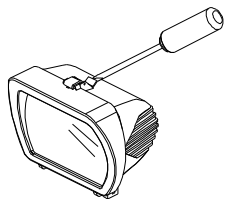

FIGURE 13
1) Use a flat blade screwdriver to open the front cover clip on the floodlight (FIGURE 13).